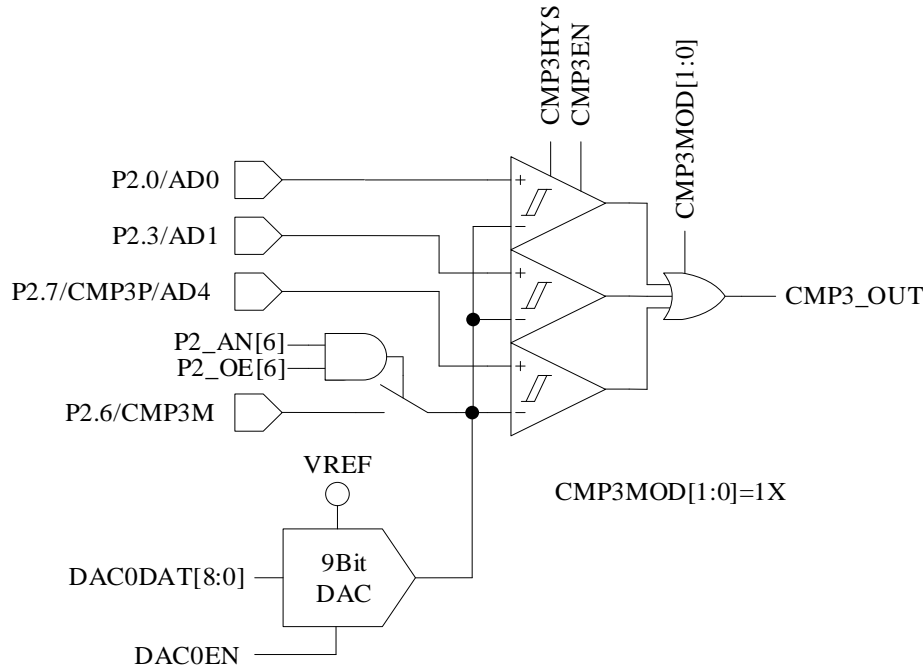

Figure 29-4 Triple-comparator Input Mode (CMP\_CR1[CMP3MOD] = 1X)
- When CMP\_CR1[CMP3MOD] = 1X, CMP3 works in triple-comparator input mode. The connection of input and output pins are as shown in Figure 29-4.